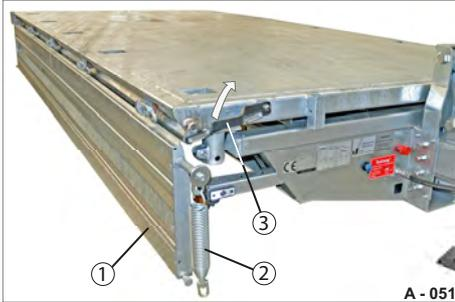

Fig. 33 Disassembling platform gate
- ▶ Hold the platform gate firmly (use auxiliary aid if necessary) and open the central locking system (Fig. 33/3). The lower pendulum central locking system releases the platform gate.